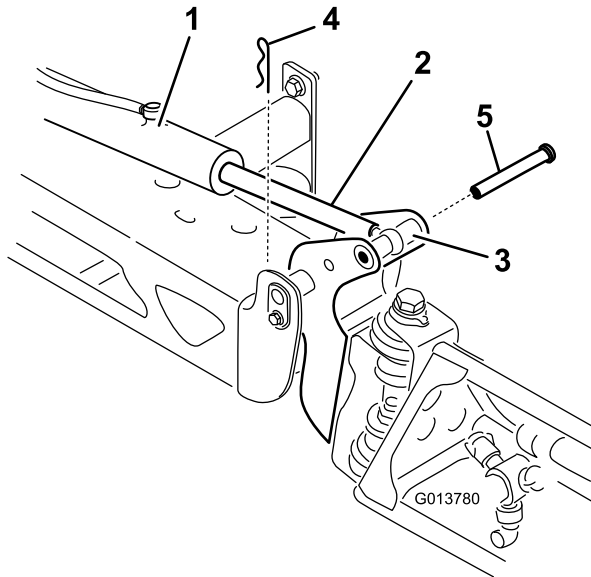

Figure 109
2. Remove the cotter pin from the pivot pin (Figure 109).
3. Lift up on the boom and remove the pin (Figure 109), and slowly lower the boom to the ground.
9. While holding the boom, insert the pin through both boom pivot and rod end (Figure 109).